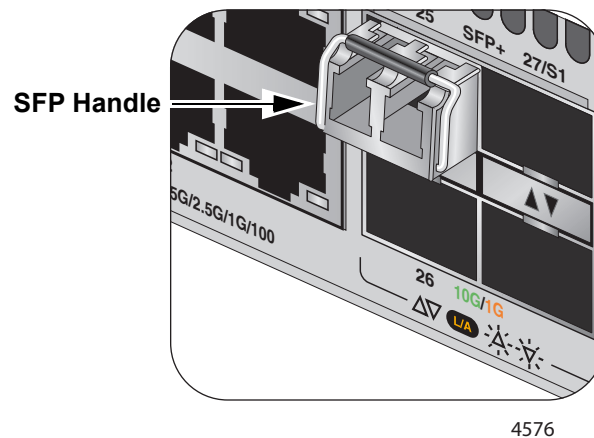

Figure 80. Positioning the SFP or SFP+ Handle in the Upright Position
5. Verify the position of the handle on the transceiver. If the transceiver is in a top port, the handle must be in the upright position, as shown in Figure 80. If the transceiver is in a bottom port, the handle must be in the down position.